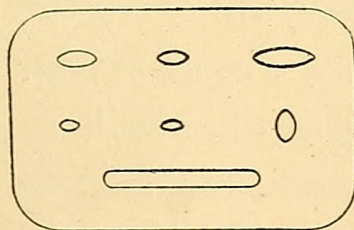

FIG. 103. — Erasing Shield.
**Erasing Shield** (Fig. 103) is a great convenience as a protection to the lines close to those which you wish to erase, as an opening of the proper size may be placed over that portion, and the surrounding lines will be covered. One of these shields can easily be prepared out of a piece of thin brass.